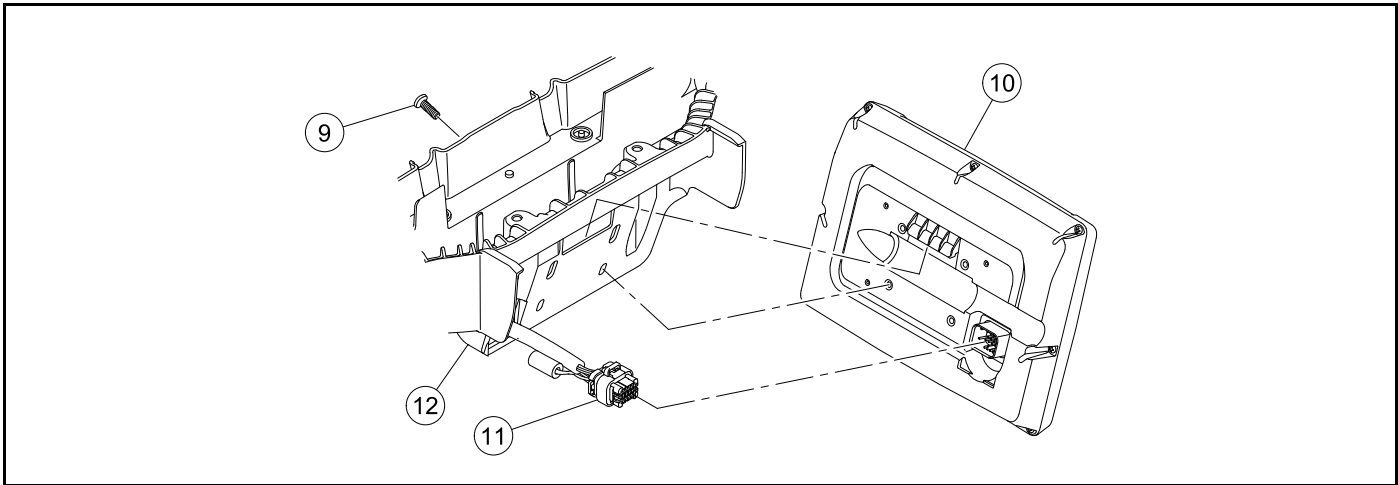

Figure 4-20 Visage Display Unit Installation
1. Put the tabs of the display unit support (12) into the front canopy struts (**Figure 4-20, Page 4-24**).